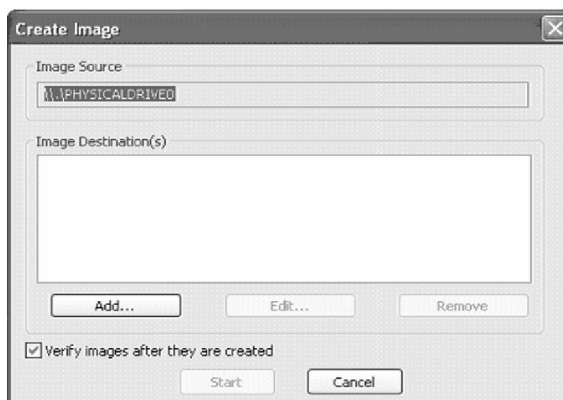

Figure 20 – Source drive Selected
12. The next prompt will show the chosen source drive in the “Source” field. Click on the Add button. See Figure 20 below.